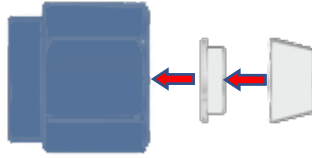

Figure 11: Orientation of Inlet Nut and Ferrules (PFA Tubing)
2. Place the two PFA ferrules inside the PFA nut as shown in Figure 11.